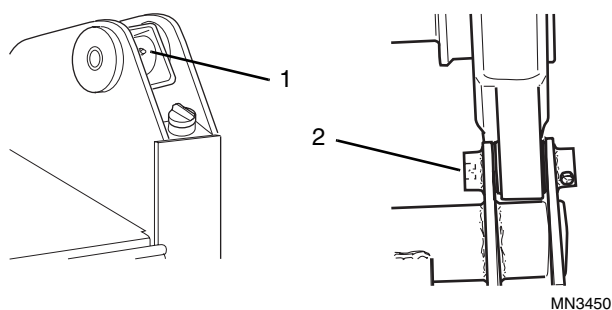

Figure 9-25 Loader Arm Lubrication
Using the grease fittings at the loader arm (Fig. 9-25, 1) and quick attach pivot points (2), lubricate the pivot pins with a quality multi-purpose lithium based grease. Apply the grease until excess shows on both sides of the pin.